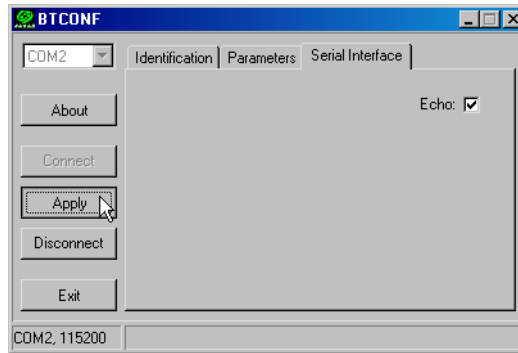

Figure 2-42. BTCONF Serial Interface Tab
- Click the **Serial Interface** tab (Figure 2-42). Enable **Echo** to display Bluetooth® module replies and corresponding commands on the computer terminal. If needed, click **Apply**.